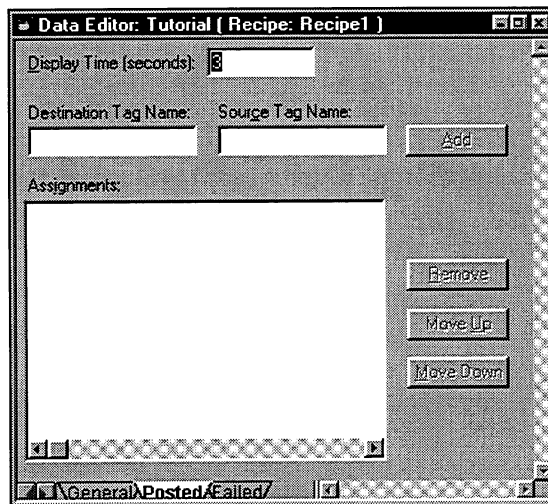

Figure 9-4. Posted Assignment Page
1. Select the Posted tab on the bottom of the Recipe Editor form to access the Posted Assignment page, as shown in Figure 9-4.